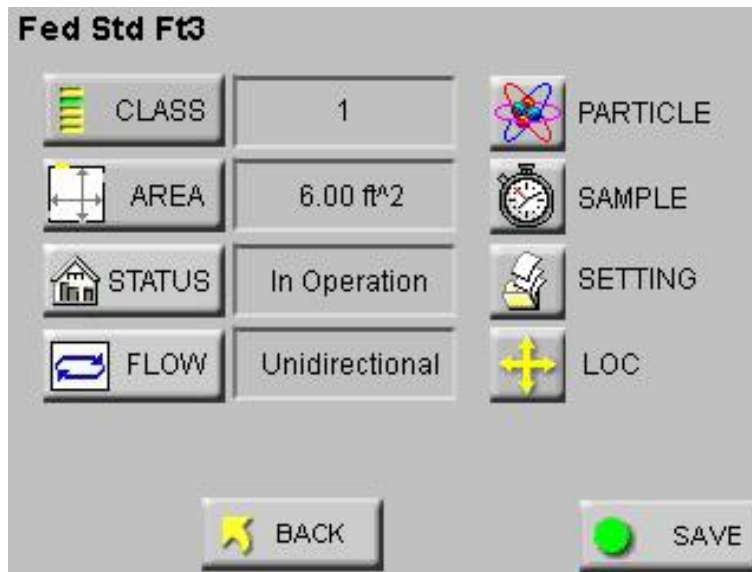

Figure 6-94 Configure the Instrument
- The SETUP screen shown in Figure 6-94 will display the values that were configured in the display fields.